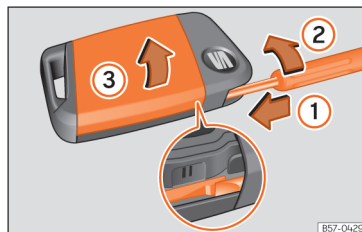

Fig. 87 Vehicle key: opening the battery compartment cover.
- Insert a flat blade screwdriver into the vehicle key, through the outer guide of the emergency key, approx. 1 cm in the direction of the arrow »» Fig. 87 ①.
- Turn the screwdriver clockwise until the cover opens »» Fig. 87 ②.
- Open the cover in the direction indicated by the arrow »» Fig. 87 ③ and remove it »» ❶.